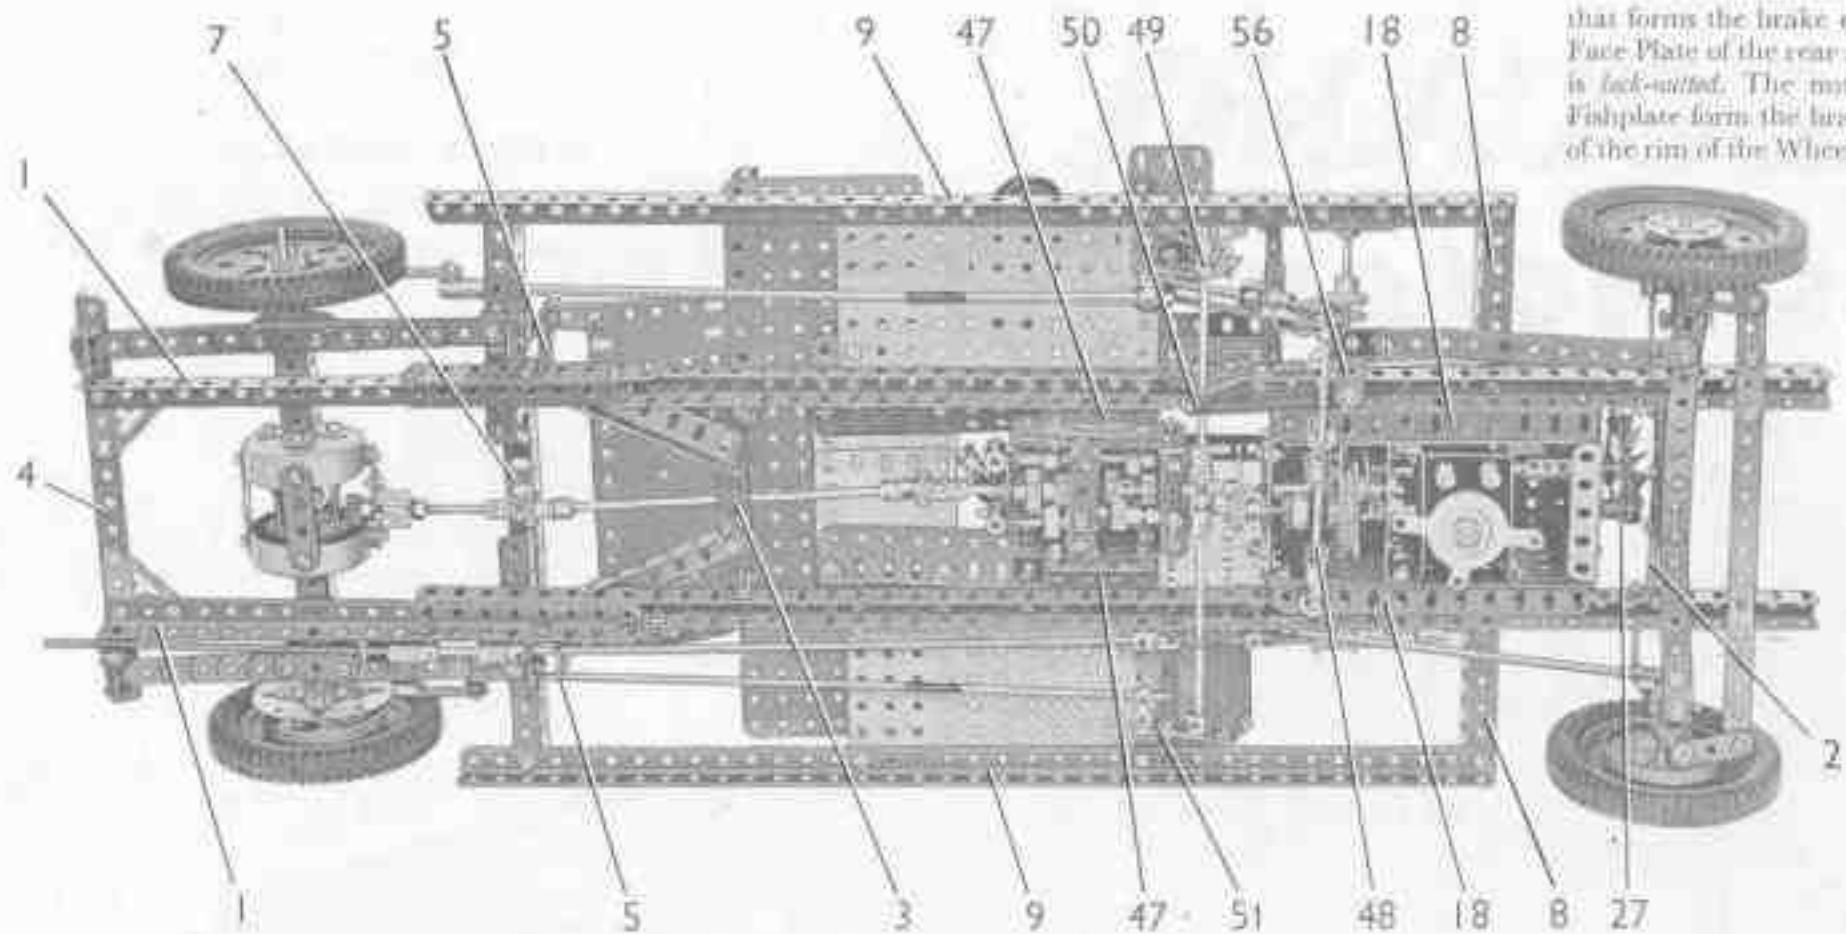
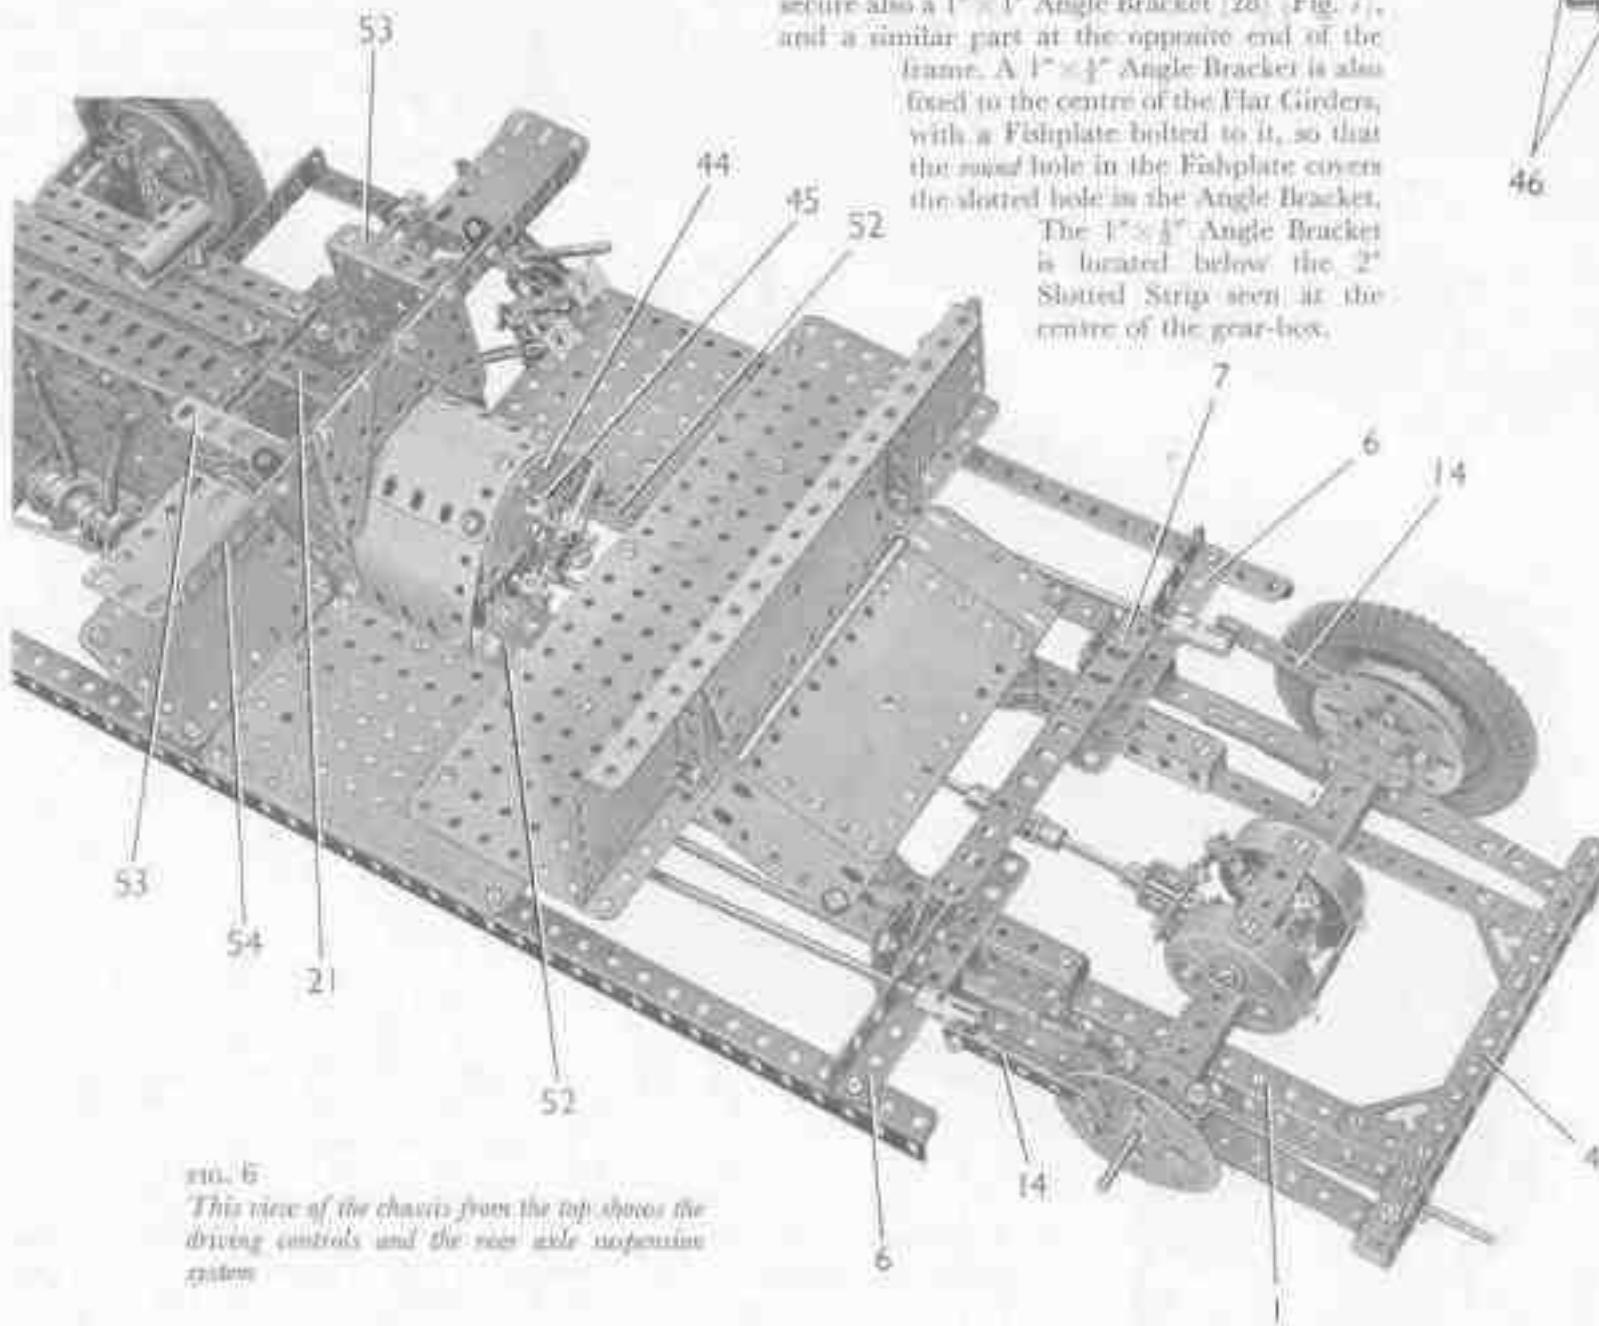

FIG. 2
FIG. 6
A Channel Bearing (5) is bolted to each side of the chassis, and to it is fixed a  $1\frac{1}{2}$ " Angle Girder (6) fitted with a  $1\frac{1}{2}$ " Corner Bracket. The Corner Brackets are connected by a  $5\frac{1}{2}$ " Angle Girder (7) (Fig. 6). A  $3\frac{1}{2}$ " Angle Girder (8) is fixed to each side of the chassis, and  $10\frac{1}{2}$ " Angle Girders (9) are bolted to the ends of the Girders (6) and (8). A  $5\frac{1}{2} \times 3\frac{1}{2}$ " Flat Plate is bolted between the chassis member and the Girder (9) on each side (see Fig. 2).
The rear wheels are 3" Pulleys, to each of which a Wheel Flange that forms the brake drum is bolted. A Fishplate is back-saddled to each Face Plate of the rear axle, and to the Fishplate a 2 $\frac{1}{2}$ " Strip (14) (Fig. 6) is lock-saddled. The nuts on the bolt that connects the Strip and the Fishplate form the brake shoe, and can be pulled against the inner side of the rim of the Wheel Flange by means of the Strip (14).
Each of the rear springs is formed by a  $7\frac{1}{2}$ ", a  $5\frac{1}{2}$ ", a  $4\frac{1}{2}$ ", a  $3\frac{1}{2}$ ", a  $2\frac{1}{2}$  and a  $1\frac{1}{2}$ " Strip connected by two 1 $\frac{1}{2}$ " Bolts. The Bolts pass on each side of the axle casing, through three 1 $\frac{1}{2}$ " Strips placed face to face. Nuts on the Bolts clamp the 1 $\frac{1}{2}$ " Strips and the axle casing securely to the spring (see Fig. 6).
are bolted flanges upward, and to one of them a  $3\frac{1}{2}"$  Strip is attached by Angle Brackets. A  $4\frac{1}{2}" \times \frac{1}{2}"$  Double Angle Strip (21) (Fig. 6) is fixed to the rear of the unit, and a  $2\frac{1}{2}" \times 1\frac{1}{2}"$  Flanged Plate (22) is bolted between the sides.
The sparking plugs are  $\frac{1}{4}$ " Bolts that are connected to a Chimney Adapter by four lengths of Spring Cord. The exhaust pipe consists of two Springs bolted to the housing and clamped at their lower ends between  $\frac{3}{4}$ " Flanged Wheels on a  $3\frac{1}{4}$ " Screwed Rod. One end of the Screwed Rod is fixed in one of the Girders (8) Fig. 2), and to the other a Flexible Coupling Unit is attached by a Threaded Coupling. The Flexible Coupling Unit is joined by a Coupling to an  $11\frac{1}{4}$ " Rod that passes through one of the Channel Bearings (5). This Rod carries two Worms, in one of which is held an Adaptor for Screwed Rods that supports a  $6'$  Screwed Rod. The rear end of the Screwed Rod is fixed in an Angle Bracket bolted to the Girder 4.
A  $1'' \times 1''$  Angle Bracket is bolted to the top at the rear end of the gear-box frame, and a Threaded Pin is passed through this Angle Bracket and through a Semi-Circular Plate (44) (Fig. 6). A Swivel Bearing (45) is fixed on the Threaded Pin, and in it is held a  $2\frac{1}{2}$ " Rod that forms the gear lever. A Coupling, to which two Fishplates (46) are attached by bolts, is fixed to the lower end of the  $2\frac{1}{2}$ " Rod. The Fishplates are arranged one on each side of bolts screwed into the Couplings (43). The movement of each selector shaft is restrained by a  $\frac{1}{2}$ " Bolt held in the top of the gear-box frame by two nuts. The shank of this Bolt presses tightly against the selector shaft.
The gear-box is connected by  $\frac{1}{2}$ " Bolts to Girder Brackets (47) bolted to the chassis (Fig. 2). The sides of the gear-box are spaced from the Girder Brackets by a nut on each bolt. A 37-tooth Gear on the input shaft is driven by a  $\frac{1}{2}$ " Pinion on the Rod (25), and the drive to the rear axle is carried by a  $6\frac{1}{2}$ " Rod and two Universal Couplings.
#### Clutch and Brake Mechanisms (Figs. 2, 5 and 8)
The brake pedal is a Slide Piece on a  $2''$  Rod, which is mounted in an Obtuse Angle Bracket bolted to a  $1''$  Triangular Plate fixed to the  $5\frac{1}{2}'' \times 3\frac{1}{2}''$  Flat Plate. Two Compression Springs are placed on the Rod between the Slide Piece and the Obtuse Angle Bracket. An End Bearing on the lower end of the  $2''$  Rod is lock-nutted to a Bell Crank (49) (Fig. 2) on a built-up axle. This axle consists of two  $4\frac{1}{2}$ " Rods, each of which carries a small Fork Piece, and the Fork Pieces are bolted together by their lugs. The axle is supported in Flat Trunnions bolted to the chassis, and in a  $1\frac{1}{2}''$  Strip fixed to a Trunnion attached to one of the Girders (9). The axle is held
in place by a Collar, and in addition to the Bell Crank (49) it carries half of a Dog Clutch (50) and a  $2''$  Strip (51) bolted to a Double Arm Crank. Handrail Couplings are pivoted on bolts passed through the Bell Crank and the Strip (51), and each Handrail Coupling is connected by a built-up rod to a Strip Coupling that pivots on a bolt in one of the Strips (14) (Fig. 6). The built-up rods are each made from a  $4''$  and an  $8''$  Rod joined by a Rod Connector. A Spring is attached by a bolt to the half of the Dog Clutch (50), and is looped over the clutch shaft (48).
#### Gear-Box Cover, Dashboard and Front Seat (Fig. 6)
A Hinged Flat Plate is bolted behind the front seat, and its horizontal half is extended on each side by a  $2\frac{1}{2}'' \times 1\frac{1}{2}''$  Flexible Plate. These plates are connected to the Channel Bearings (5) (Fig. 2) by  $1'' \times 1''$  Angle Brackets.
The steering column is a  $6\frac{1}{2}''$  Rod that is supported in an Angle Bracket bolted to Girders (54) (Fig. 6) and in a Double Bent Strip and a Double Arm Crank fixed to a  $3'' \times 1\frac{1}{2}''$  Double Angle Strip. The Double Angle Strip is bolted to one of the Flanged Plates (53) and to a Corner Gusset supported by a  $2''$  Angle Girder fixed to one of the Girders (9).